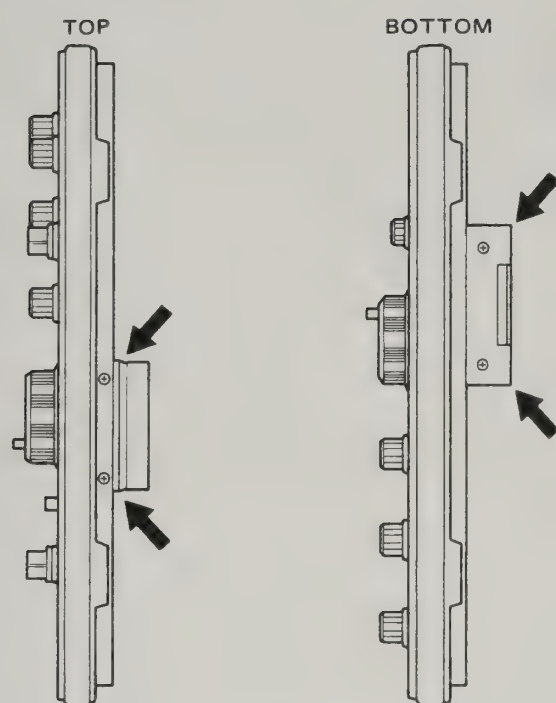

Fig. 14 VFO Retainer
4. Unscrew the four countersunk screws (two on the top and two on the bottom) which hold the VFO to the front sub-panel (See Figure 14).